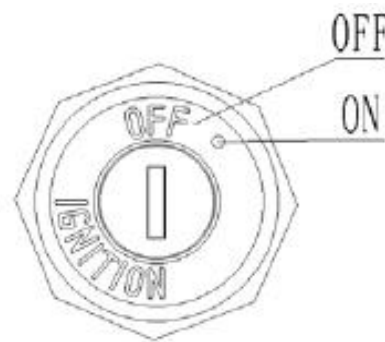

Fig 4 Key Switch
- 1.Insert the key into Key switch(figure 4),Turn the key clockwise to “ON” position. Gently pull up the Emergency stop switch(Figure1-7).and the control circuit opens.
switch (Figure 1.7), and pull out the key (Figure 4)
If there is any error or the car is not operate, Stop using and press the emergency stop switch(Figure 1.7).Parking the car in safe area if possible .Turn the key counterclockwise and remove the key(figure 4).Notify the manager or contact your after-sales service staff immediately .Use a special towing equipment /lifting equipment to pull the truck out of the operating area if necessary .
Park the car safely, Move the Mast forward to the appropriate distance, Turn off the car by key(Figure 4) and press the emergency stop switch(Figure 1.7) to open the battery cover ,Remove the battery connector .Then lift the battery from the top of the frame directly .Caution: If the lifting equipment is not safe. The battery may tip over .Installation is the opposite procedure of remove ,Please connect the positive terminal firstly .Otherwise the car is easy to damage